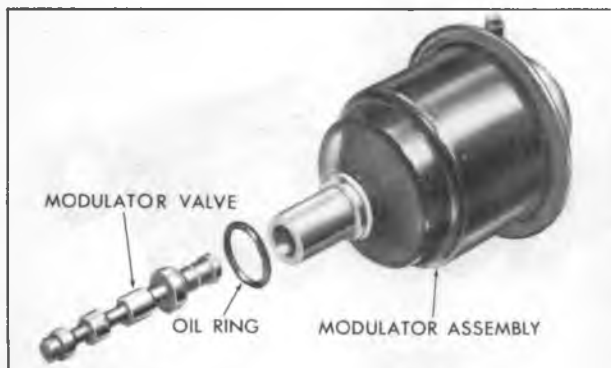

Figure 101—Modulator Assembly and Valve
1. Inspect modulator assembly for any signs of bending or distortion (fig. 101).